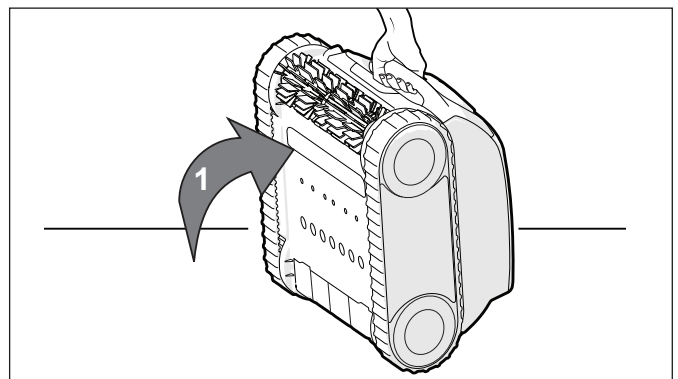

Figure 16. Cleaner in Upright Position
1. Stand the cleaner on its end in a vertical position (see Figure 16).